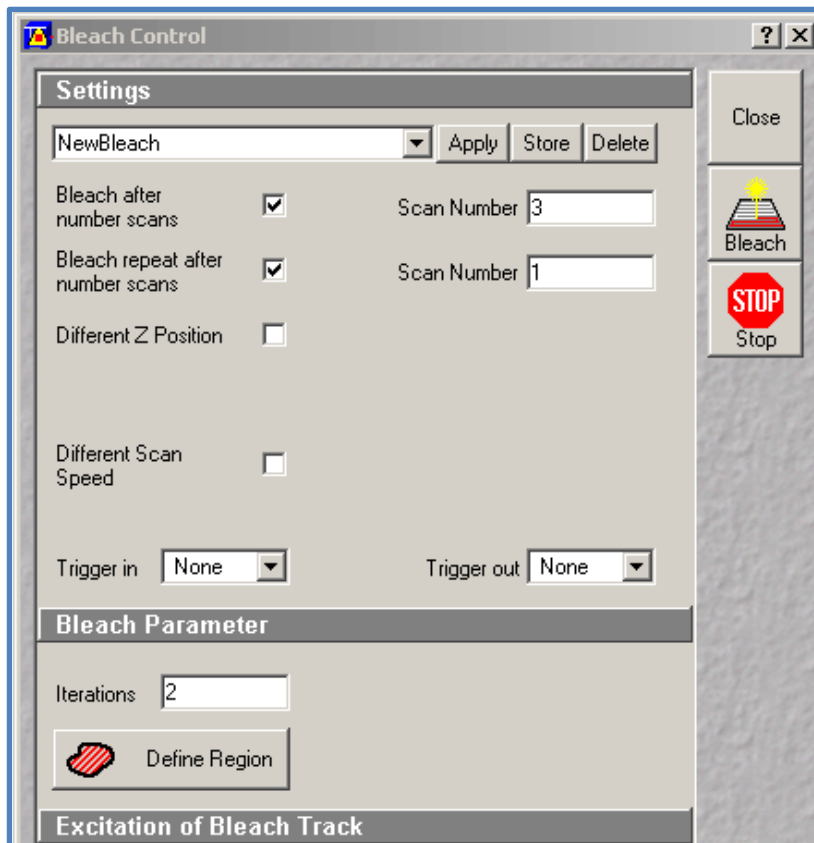

Figure 1.
- Set up bleach parameters [Edit Bleach - Bleach control panel]. Set the required number of pre-bleach scans [Bleach after number of scans (tick) Scan number e.g. 3]. Set to scan once after each bleach event [Bleach repeat after number of scans (tick) Scan number 1]. Set the number of bleach iterations for each bleach event [Bleach parameter - Iterations e.g. 2] see Figure 1.